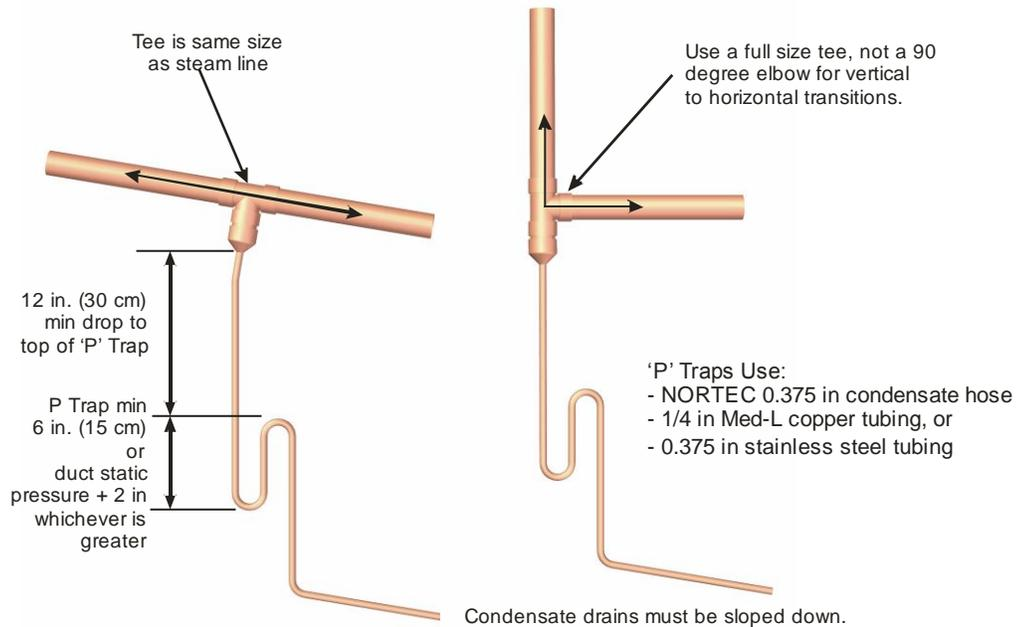

Figure 1: Drain Tee
4. Consult the following pages for step by step distributor installation starting with figure 1.
7. A p-trap should be installed at the bottom of the condensate trap. The center to center trap height should be 2" greater than duct static pressure (see Figure 1).